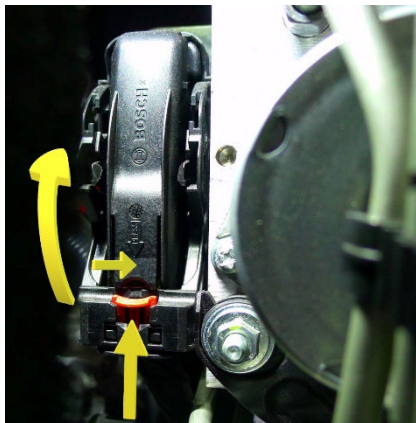
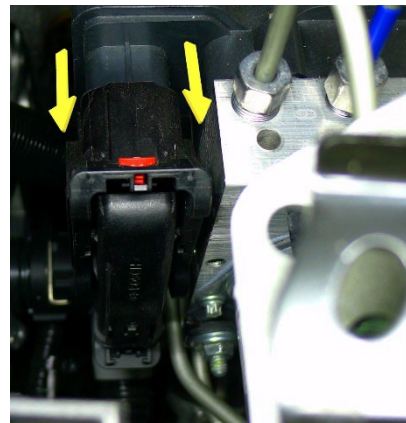

Figure 3
Figure 4
5. Slide the red locking tab, raise the lever (Figure 3), and then remove connector X151 from the HCU (Figure 4).